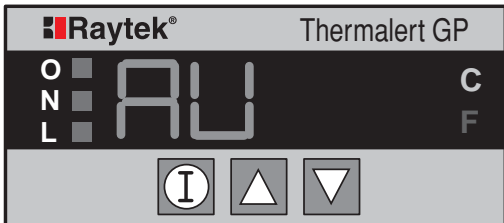

Figure 17: Averaging Display
7. Press the  button again and the Averaging display (Figure 17) appears.